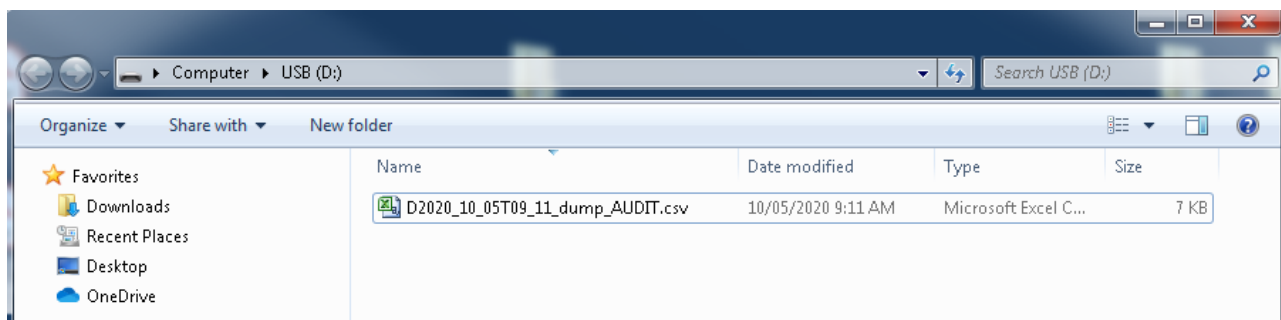

Figure 8-11 Audit File Name Example
4. Remove the USB storage device and open the audit trail .csv file (Figure 8-11) on a PC using the appropriate software.